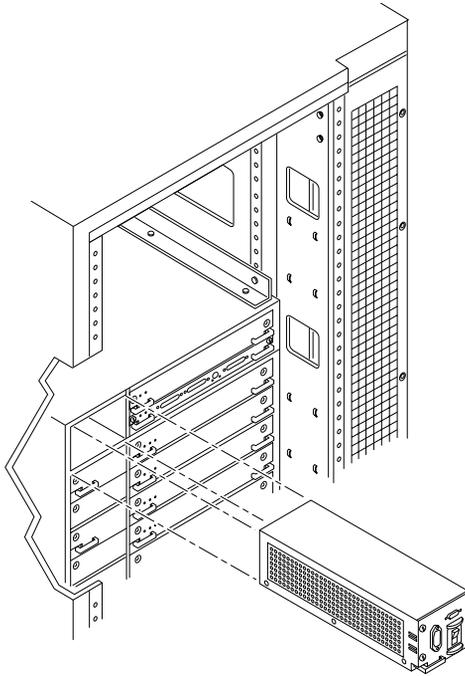

FIGURE 1-5 Fan Tray Assembly—System Rear
8. Remove the fan tray assembly from the rear of the system (FIGURE 1-5).
- 1. Replace the fan tray assembly in the rear of the system (FIGURE 1-5).**